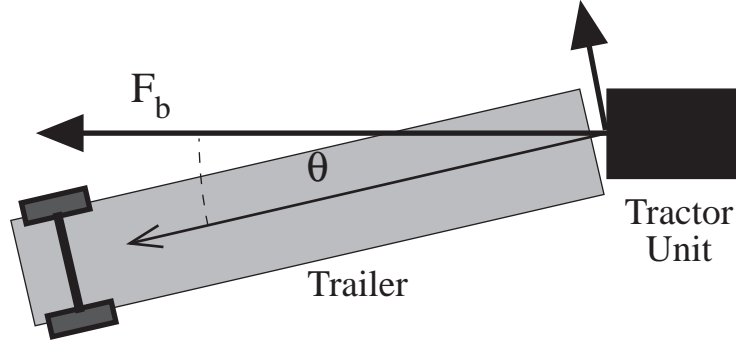

Figure 2: The braking force acting on the trailer.
- (b) The force diagram on the trailer is shown in Fig. 2. The braking force F_b is shown, along with the component of that force perpendicular to the axis of the trailer, $F_p = F_b \sin \theta$, where θ is the angle between the axis of the trailer and the braking force. There is one other force in the problem; the reaction force of the pavement acting on the trailer through its tires to keep the angle θ constant (note that it is not shown in Fig. 2). This reaction force would normally be equal to F_p , so that there is no increase in angular momentum of the trailer (note that the trailer is swinging in uniform motion as it turns the corner). The maximum frictional force is